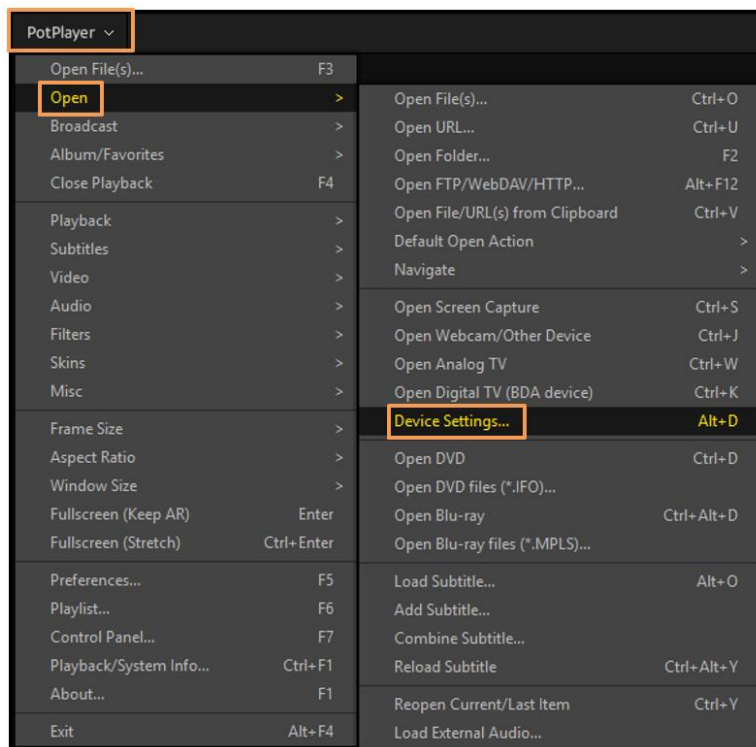

Figure 7.3. Device Settings in PotPlayer
2. To configure output resolution, either hit the shortcut Alt+D or Click **PotPlayer > Open > Device Settings...**, as shown in Figure 7.3.